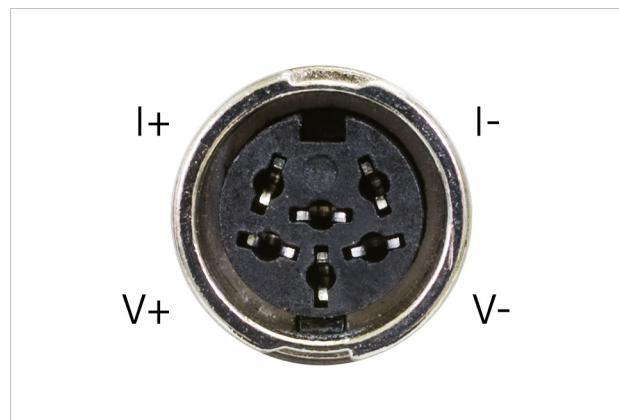
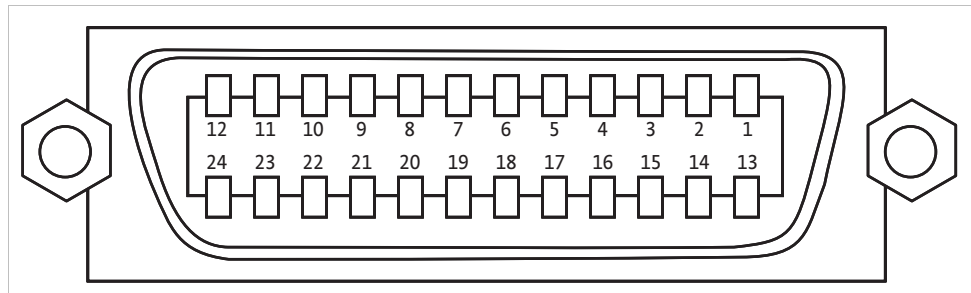

FIGURE 8-2 Sensor input connector, A through D
FIGURE 8-6 IEEE-488 interface
1. Locate the line input assembly on the instrument rear panel. See Figure 8-2.
2. Turn the power switch Off (O).
9. Turn the power switch On (I).
The sensor input, terminal block, USB, Ethernet, and IEEE-488 connectors are defined in FIGURE 8-2 through FIGURE 8-6.
The total length of cable allowed in a system is 2 m for each device on the bus, or 20 m maximum. The Model 224 can drive a bus of up to 10 devices. A connector extender is required to use the IEEE-488 interface and relay terminal block at the same time. FIGURE 8-6 shows the IEEE-488 interface connector pin location and signal names as viewed from the Model 224 rear panel.